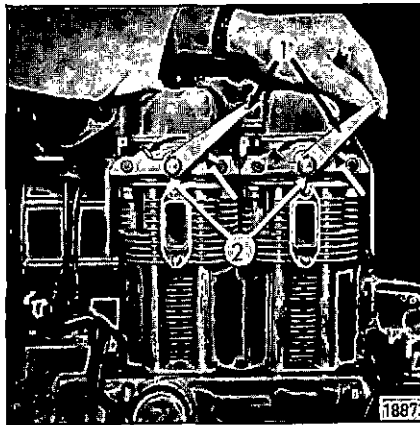

Fig. 11
3. Pull decompression lever 1 (Fig. 11) from stop to stop (see arrows) and move it back to original position. Thus the exhaust valve is opened via the decompression shaft. Now the engine can be cranked easily.